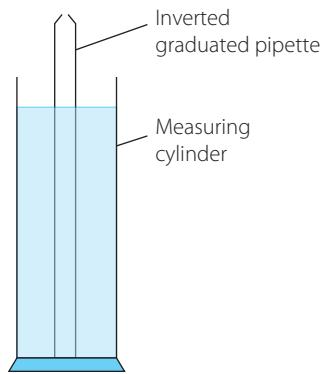

FIGURE 2.11
- 4 Turn the 10mL graduated pipette upside down and place it into measuring cylinder A so the large opening is in the measuring cylinder and allow it to fill with water (Figure 2.11).